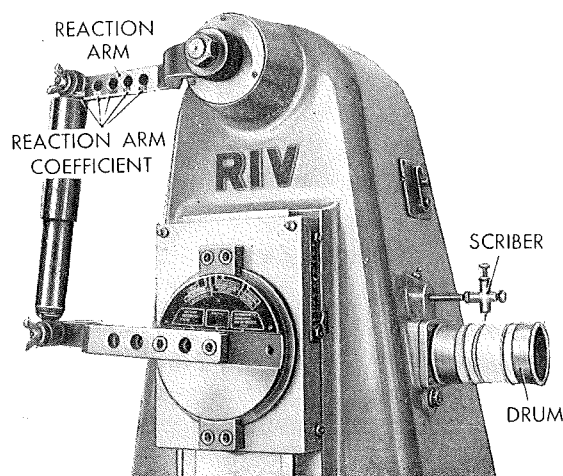

Fig. 266 - Detail of the A. 76003 shock absorber tester head.
- a) Adjust reaction arm length at 9.843" (250 mm) (fig. 266).
slide side (fig. 266) relevant to shock absorber under test.
Let shock absorber complete four or five cycles before tracing the dampening diagram by lowering the scribe to contact the paper sheet rolled on the drum (fig. 266).